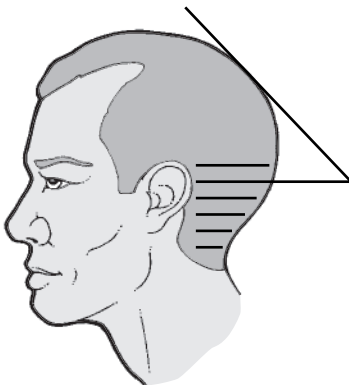

FIGURE 31 | Horizontal, 45-degree elevation.
- Holding the hair at *45 degrees* from where it grows is considered to be a medium elevation. Medium elevation or graduation creates layered ends or “stacking” within the parting of hair from the 0-degree distance to the 45-degree position. Movement and texture is created within the distance between the two degrees, depending on the length of the hair and the position of the angle in relation to the head form. Both stationary and horizontal traveling guides are used to achieve the graduated or stacked effect (Figure 31). Use of a vertical parting projected at 45 degrees, with the fingers holding the parting